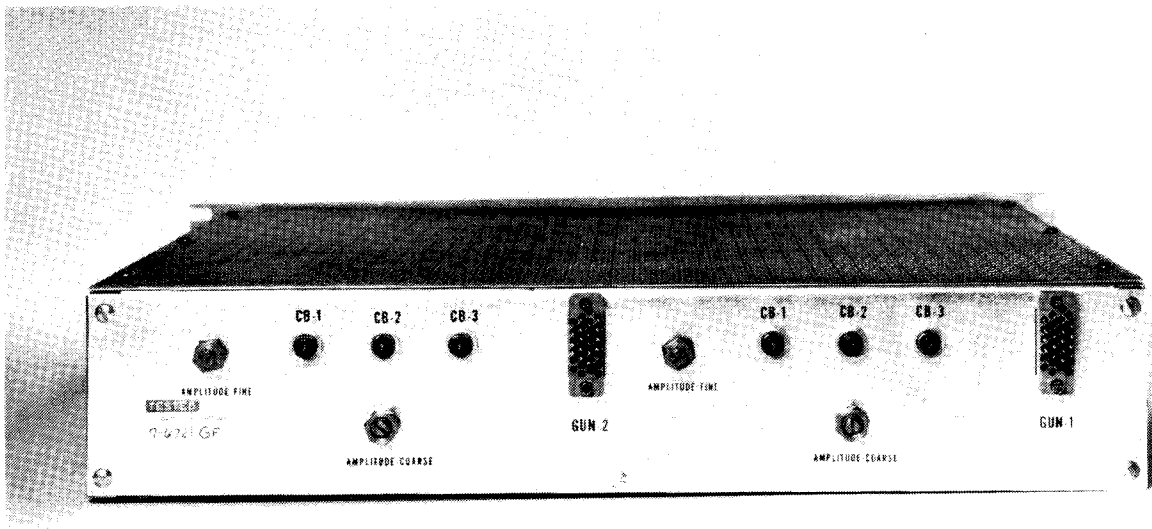

Figure 3-3. XY-8 rear panel controls
- e) XY8-8 circuit breakers (optional): resettable pushbutton circuit breakers located on the rear panel of the XY8-8 (figure 3-3).